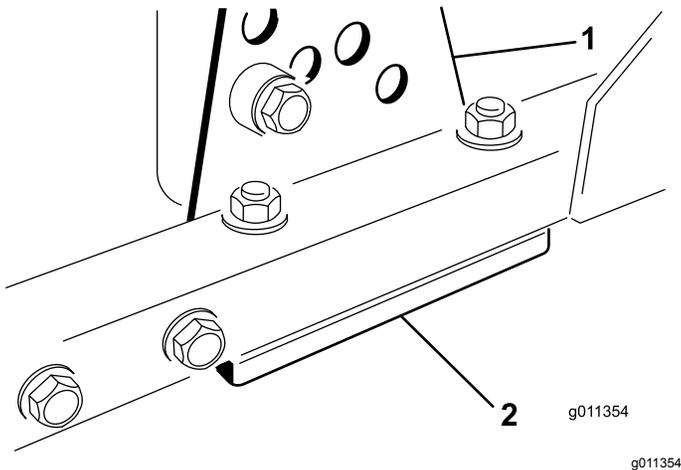

Figure 84
1. Remove the height-of-cut bracket, (front, left, or right) from the deck frame (Figure 84).
2. Adjust 1.5 mm (0.060 inch) shims and/or 0.7 mm (0.030 inch) shim between the deck frame and bracket to achieve the desired height setting (Figure 84).